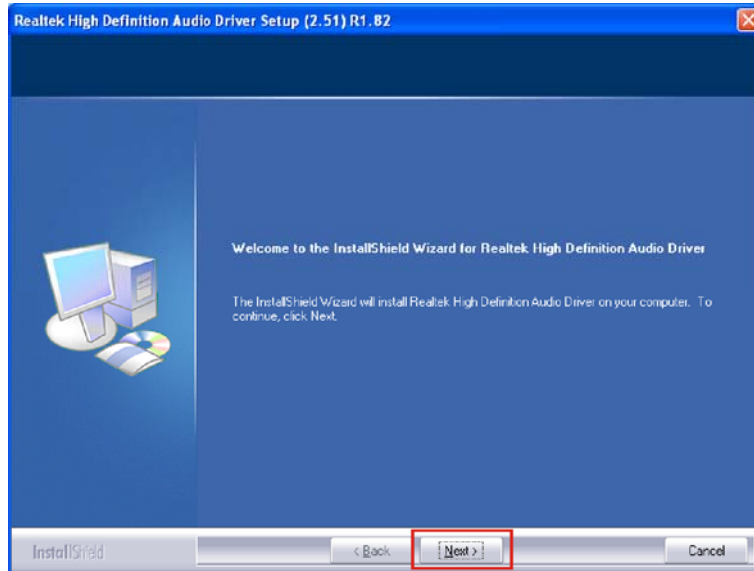

Figure 6-27: HD Audio Driver Installation Welcome Screen
Step 5: The AC'97 Driver Installation screen in Figure 6-27 appears.